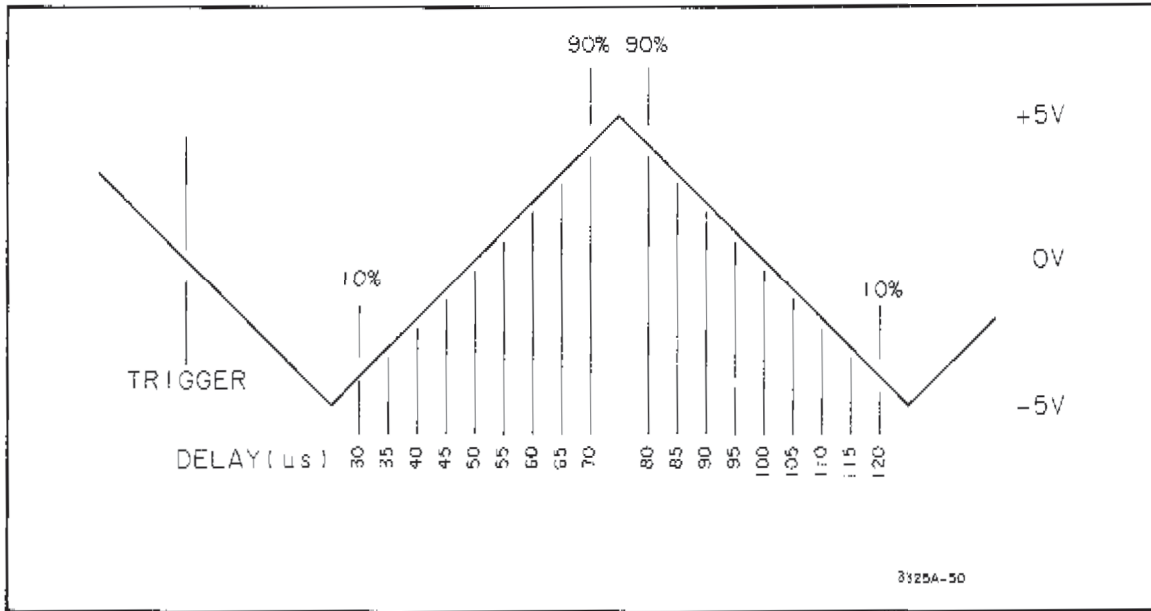

Figure 4-11. Triangle Linearity Test.
d. Set the digital voltmeter delay to .00003 (seconds). Record the digital voltmeter reading on the Performance Test Record under "Positive Slope Measurement, (10%) y1". This is the 10% point on the positive slope of the triangle. See Figure 4-11.